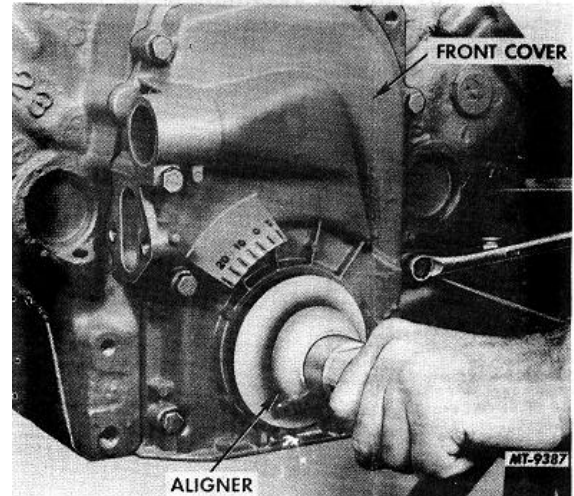

Fig. 152 Aligning Engine Front Cover Assembly to Cylinder Block Using SE-1949 Aligner
- Fig. 152. Then tighten the engine front cover mounting bolts.